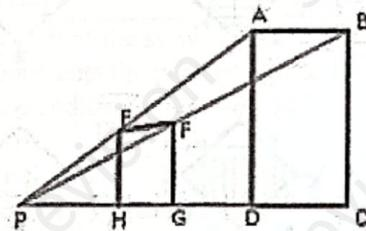

Figure 11
16. The plane ABCD obtained by projecting EFGH viewed from P in figure 11 is a/an of EFGH.